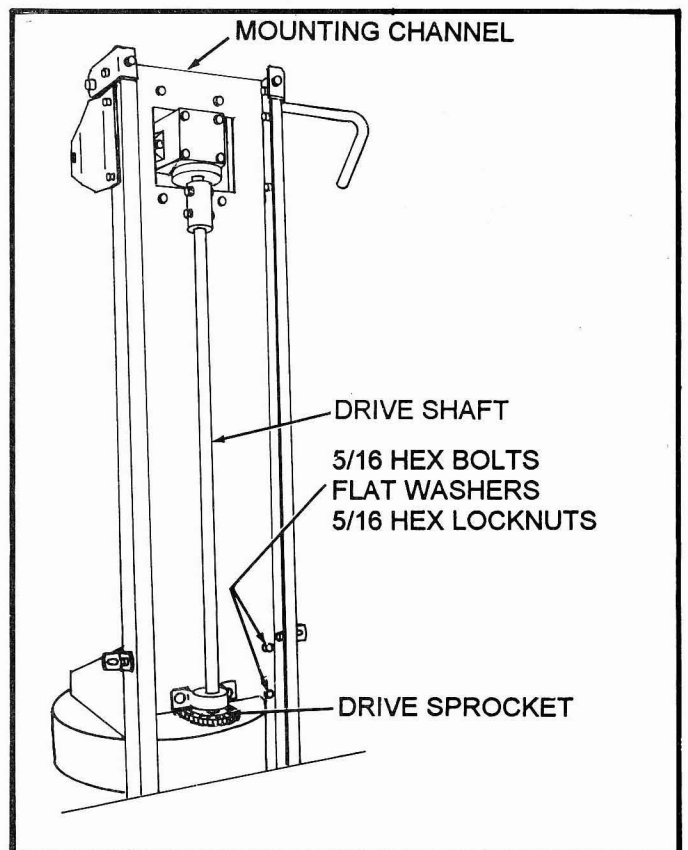

FIG. 13
- Pivot the Snow Thrower forward onto front of the Auger Housing. (See Fig. 13)